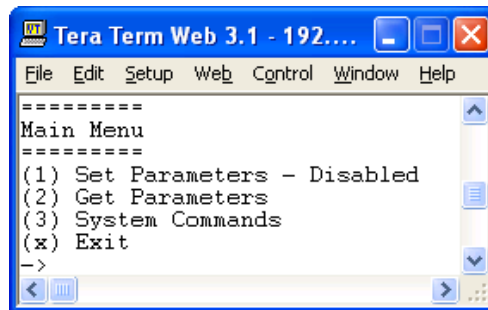

Figure 4-13: Main Menu
4. After you enter the password, press **Enter**. The main menu, Figure 4-13, displays. Telnet and serial sessions both provide access to the same TMI.